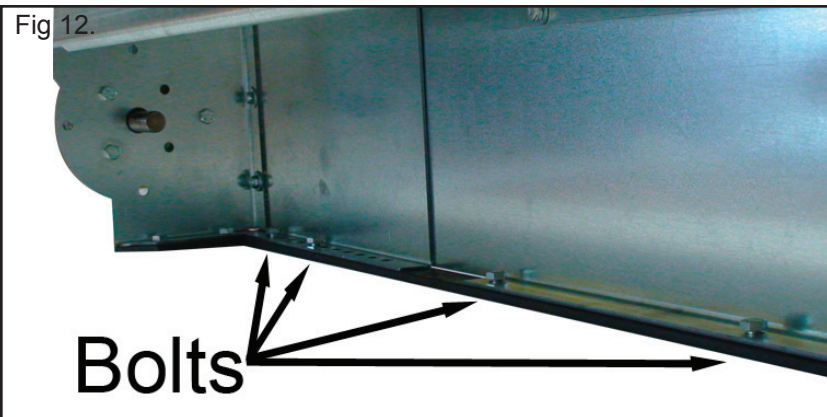

Fig 12.
Step 4. Temporarily bolt the long mounting bars to the bottom of the housing to maintain the housing width from step 3. Use only 4 bolts on each side at this time. (Fig. 12)